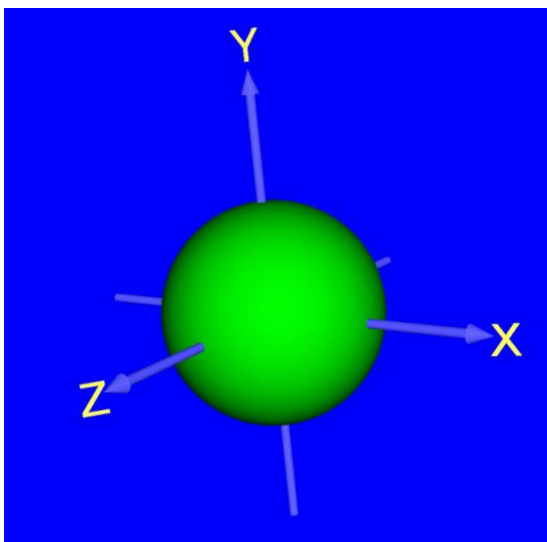

Fig 8. Solid sphere with $u, v \in [-1 \ 1]$, $w \in [0 \ 0.5]$ and resolution of $[75 \ 75]$
9. solid sphere.wrl - Shows a solid sphere as per Fig 8's specifications